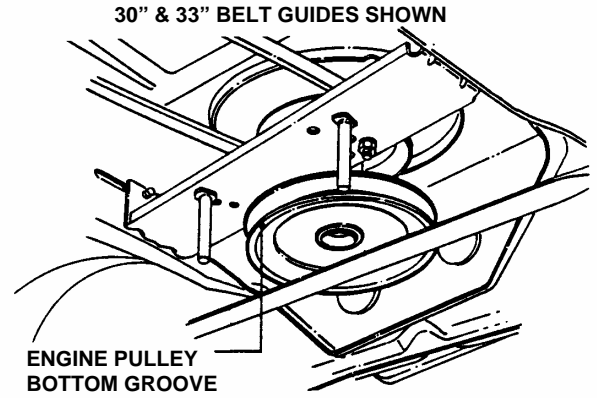

FIGURE 4.30
- 10. Slide deck forward. Remove deck drive belt from engine pulley bottom groove. See Figure 4.30.